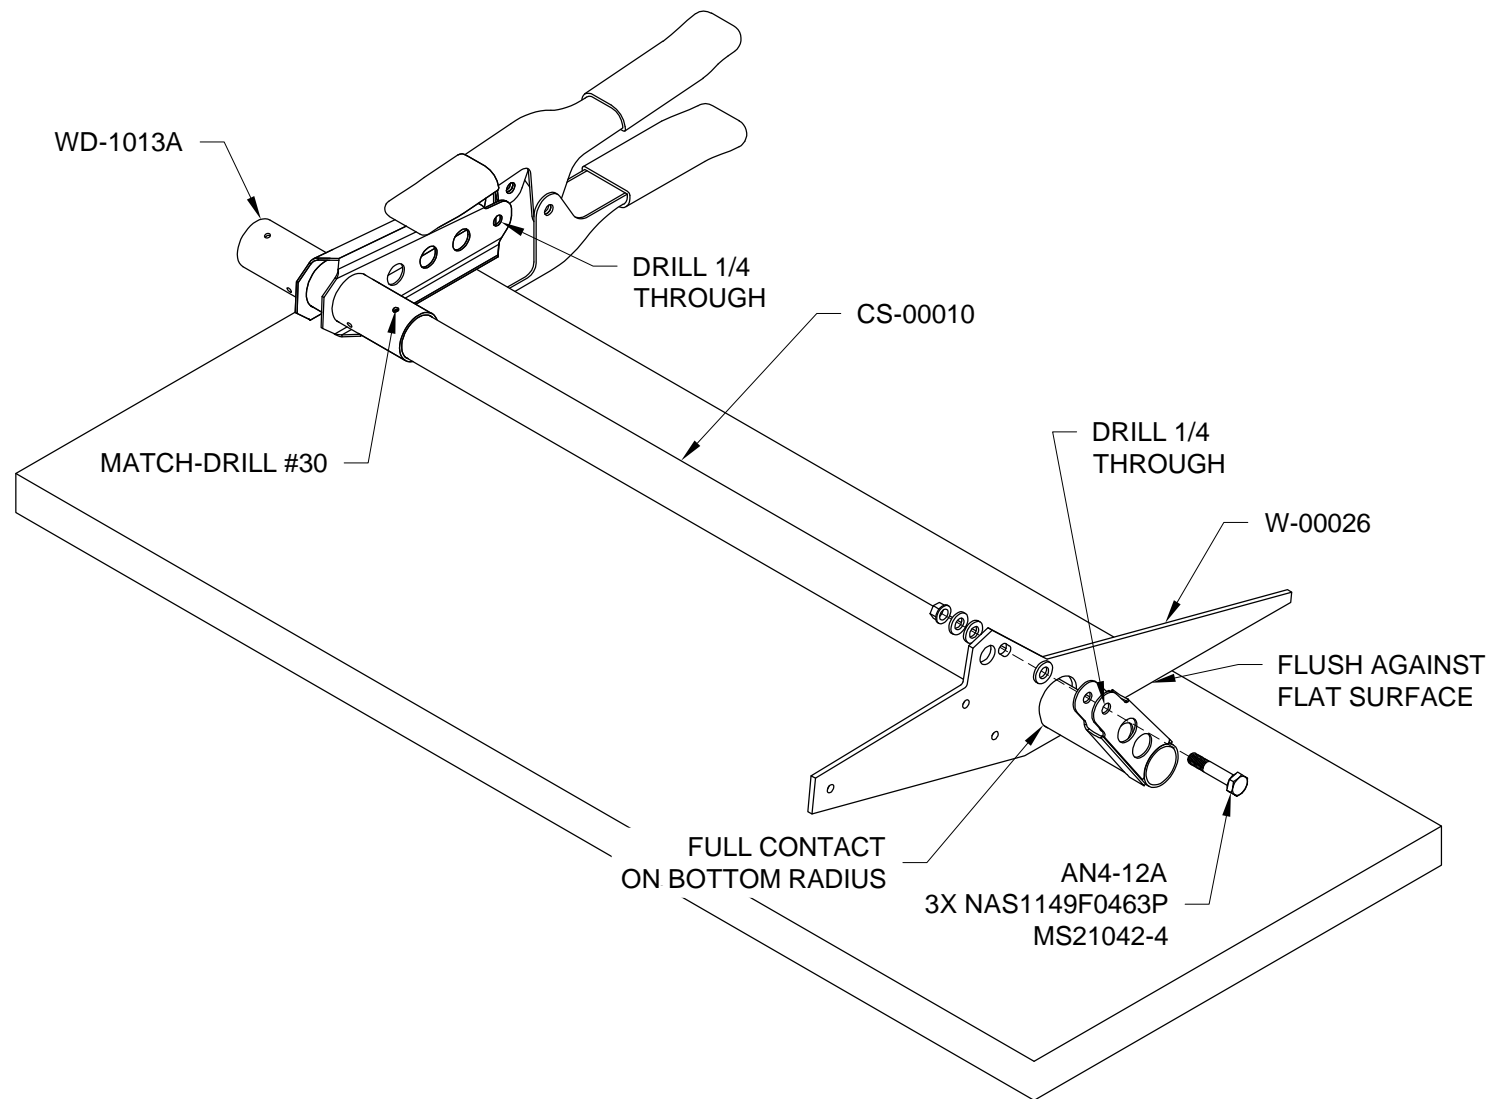

FIGURE 1: MATCH-DRILL FLAP TORQUE ARM (LEFT SHOWN)
Step 1: Drill 1/4 through the attachment points on the WD-1013A Flap Crank and the CS-00010 Flap Torque Arm to clear excess powder coat. File the ends of the flap crank tubes to smooth edges of powder coating. See Figure 1.
Step 2: Clamp the WD-1013A Flap Crank to a flat surface as shown in Figure 1.
Step 3: Insert the CS-00010 Flap Torque Arm into the W-00026 Alignment Template. Secure the flap torque arm to the alignment template using the hardware called out in Figure 1.
Step 4: Insert the CS-00010 Flap Torque Arm into the WD-1013A Flap Crank and position the W-00026 Alignment Template with the bottom edge flush against the flat surface as shown in Figure 1.
Clamp the flap torque arm to the flat surface. Place the clamp as close to the W-00026 Alignment Template (shown in Figure 1) as possible, and secure the torque arm in the position indicated.
Step 6: Match-Drill #30 the WD-1013A Flap Crank into the CS-00010 Flap Torque Arm as indicated in Figure 1.